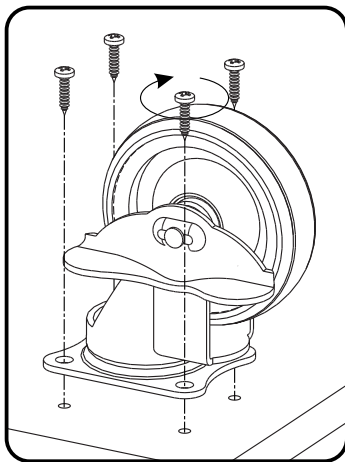

Figure 2
Attach Casters to Base (K) with Wood Screws, with Locking Casters at front. (See Figure 2)